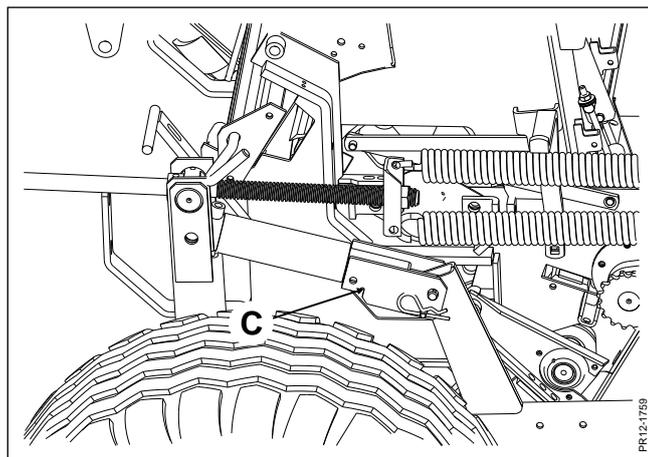

Fig. 6-6
- Fig. 6-6** Before making any adjustment, the cylinder stop **C** must be engaged and secured with pin.